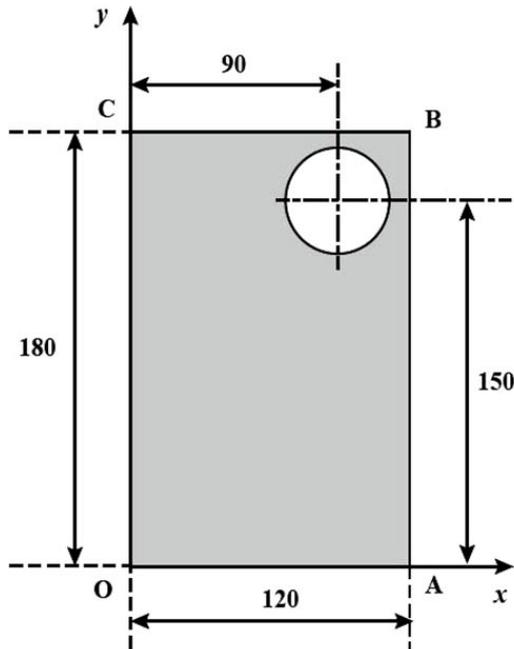

Fig. 5
- 4 (a) Fig. 5 shows a plate of uniform density aligned within a Cartesian coordinate system, (x, y) , with the origin at corner O. The plate has the shape of a rectangle, 120 mm wide and 180 mm long and contains a circular hole. The hole has a diameter of 40 mm with its centre at coordinates $(90, 150)$.